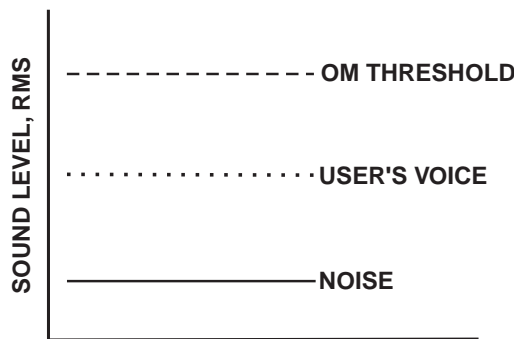
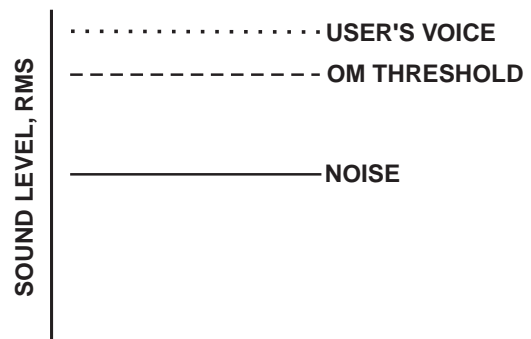

Figure 52
Figure 53
The microphone gain controls on the base station and beltack are set to mid-levels by the factory. In most cases this setting will work fine and only on loudest speech will the overmodulation (OM) indicator light. However, in environments where the background noise is loud or the user has a strong/quiet voice, the gain control will need to be adjusted. In Figure 52 the gain is set correctly. The user's root-mean-square (RMS) sound level is well below the OM threshold and only on a few loud peaks does his or her voice flash the OM indicator light. Figure 53 displays the same gain setting as in Figure 52, but brought into a high noise environment. The user's voice now lights the OM indicator over half the time he or she speaks due to the higher noise plus the user speaking louder. The result on the system is distortion with possible "clipping" on louder speech. The microphone gain must be reduced. The same applies to a user with a powerful voice. If someone sets the system mic gain to their voice and user has a much stronger voice, then the gain will need to be reduced, even if the background noise is the same.